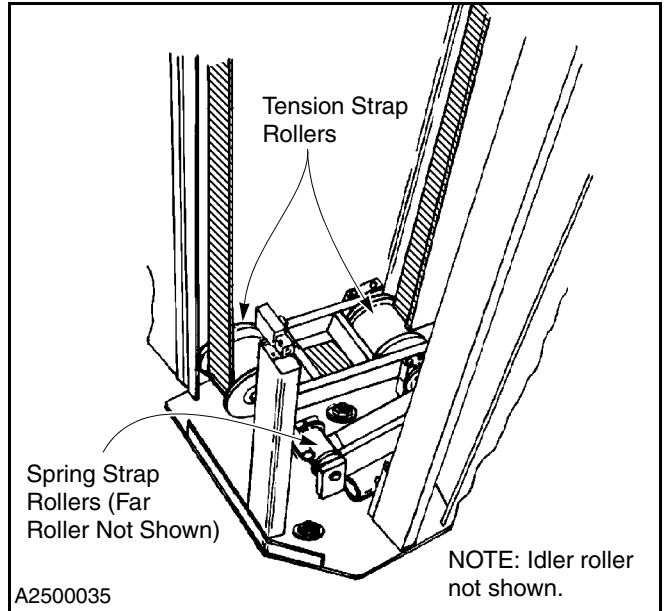

Figure 39
6. **Tension, Spring, and Idler Rollers:** The lower end of each tension strap and both spring straps each travel on a pair of rollers located in the bottom of the side columns. These rollers spin on shafts that must be lubricated with a good-quality grade of heavy lubricating oil. (See Figure 39.)